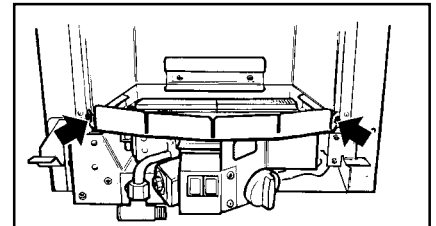

Figure 41 Burner fixing points
- Detach the burner unit from the convection box by removing 2 screws (see figure 41). Carefully lift the burner unit forward making sure that the unit does not snag on any leads. Rest the burner on its front face to allow access to the pilot and gas tap.